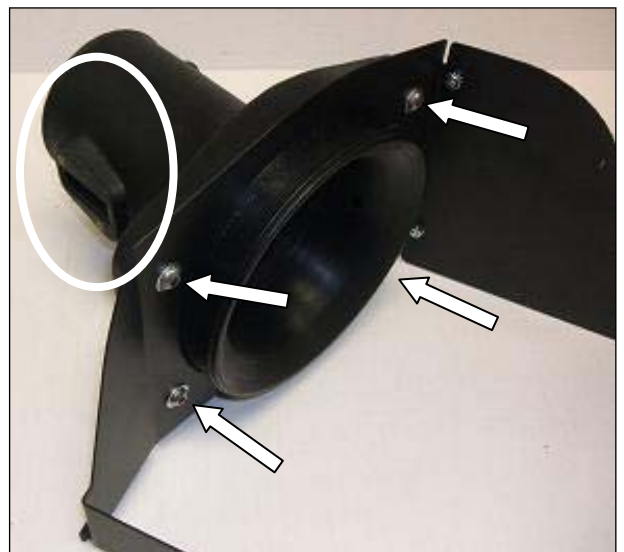

Figure 4
9. Install the MAF Adapter Tube to the Air Box Assembly with four (4) 1/4"-20 Button Head Bolts and four (4) 1/4" Flat Washers. Install the Tube with the MAF Sensor slot as shown. Refer to Figure 4.